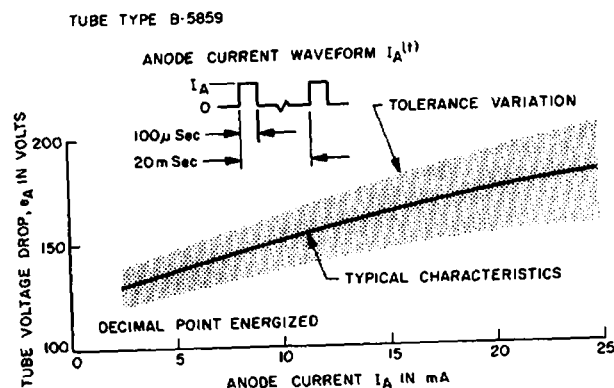

Figure 6. TUBE CHARACTERISTICS (TIME SHARING) (NOTES 7 AND 8)
- In a typical strobed/time sharing application, (Figure 6) "same-numeral" cathodes (i.e., all 1's, all 2's, etc.) of all tubes are connected in parallel and the anodes are strobed sequentially. The rapid strobing is above the flicker rate and are connected in parallel and the anodes are strobed sequentially. The rapid strobing is above the flicker rate and visual indication is normal. However, since the "on" duty cycle is not 100%, a higher than normal current is used to compensate for loss of brightness. The B-5859 NIXIE tubes are constructed and specified for these peak current conditions and no extraneous glow is exhibited during this operation.